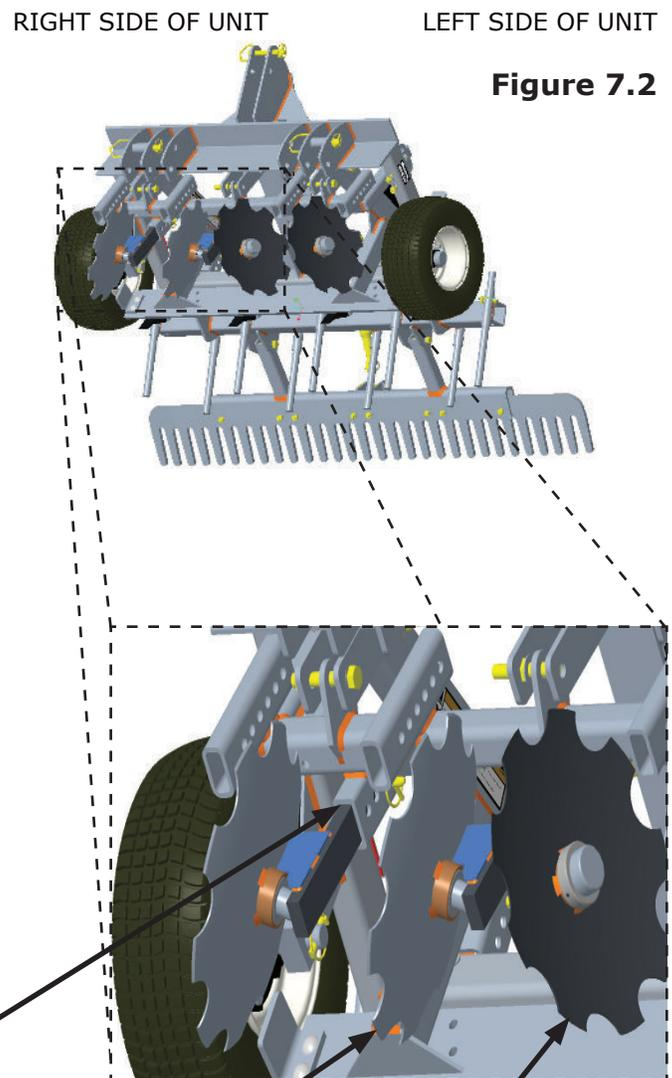

Figure 7.2
2. Slide Left Disc assemblies into the rear set of pockets on the left side of unit and Right Disc assemblies into the rear set of pockets on the right side of unit. **(Figure 7.2)**
- Recommend pinning hole in disc shank, farthest from disc into 3rd hole from the bottom of the pocket. **(Figure 7.2)**
- The disc shanks must be slid into the pockets with the shanks toward the inside of the unit and the discs facing outwards so the discs will throw the soil outward. **(Figure 7.2)**
8. Food Plot Discs can now be installed, as described, in **Figures 7.2** and **7.3**.